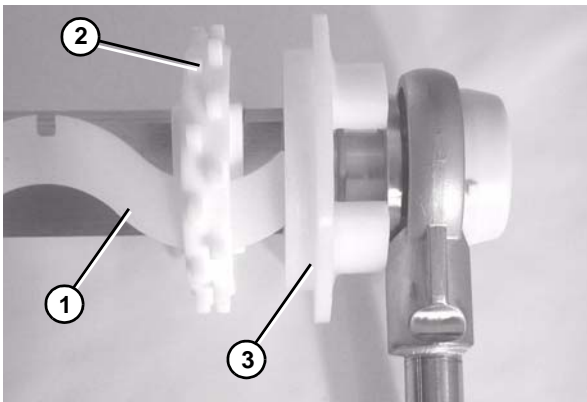

Figure 70
3. Insert the sprocket alignment bar (**Figure 70, item 1**) into the first sprocket (**Figure 70, item 2**) resting it up against the flanged puck (**Figure 70, item 3**). Position the first sprocket with the notch in the sprocket alignment bar.